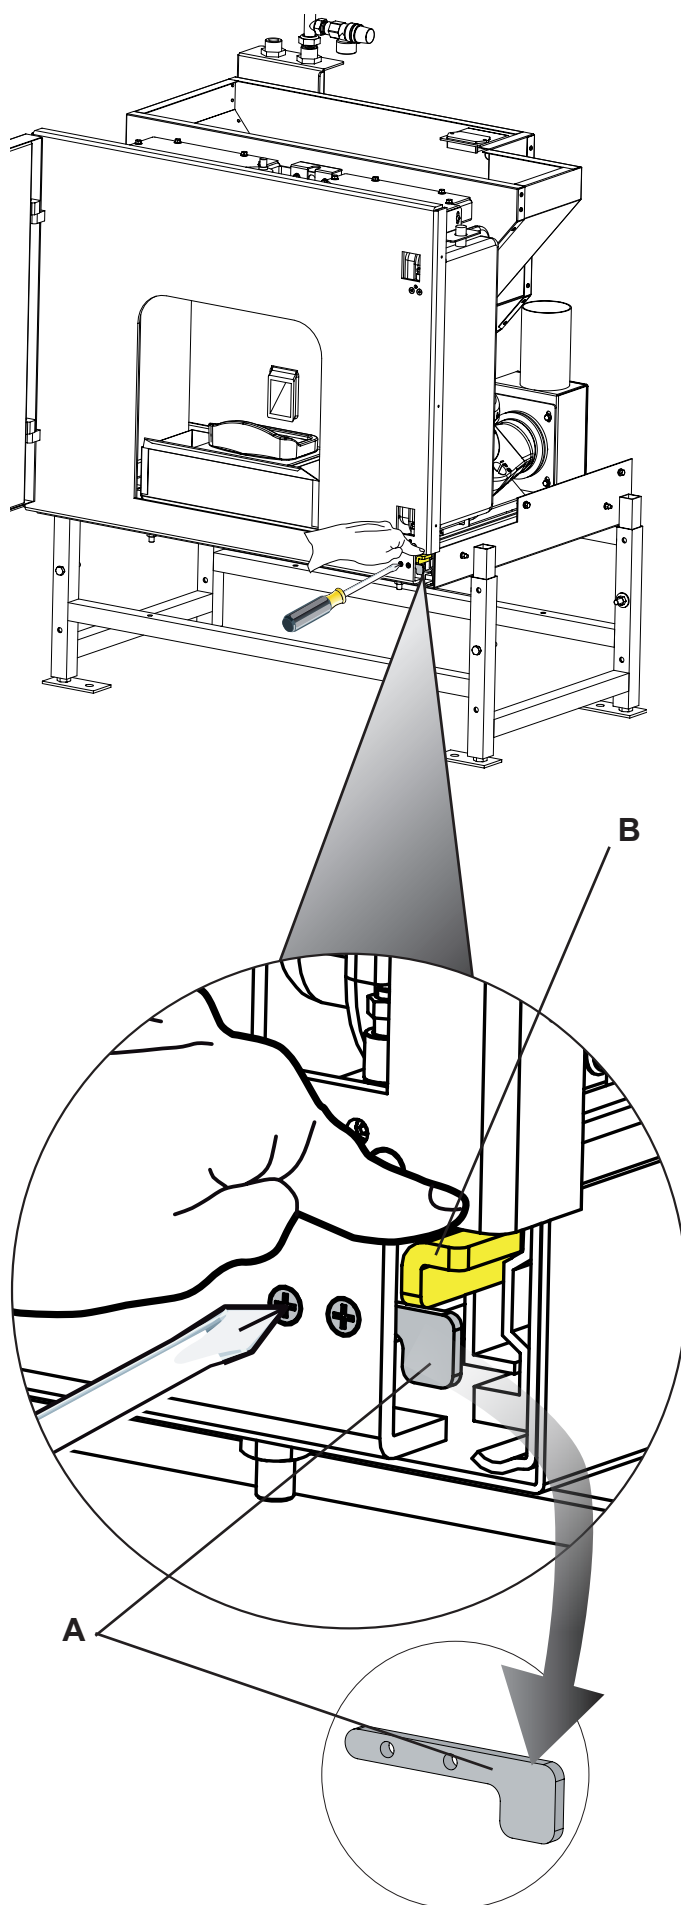

Fig. 6.3
To remove the stove, proceed as follows (Fig. 6.3):
2. remove the safety bracket (A - fig.6.3) by undoing its two bolts
3. lower the lever to release the sliding mechanism (B - fig.6.3)
- lower the lever to release the sliding mechanism (B - fig.6.3)
- remove the safety bracket (A - fig.6.3) by undoing its two bolts
- restore the safety bracket and secure it with its two bolts (A - fig.6.3)